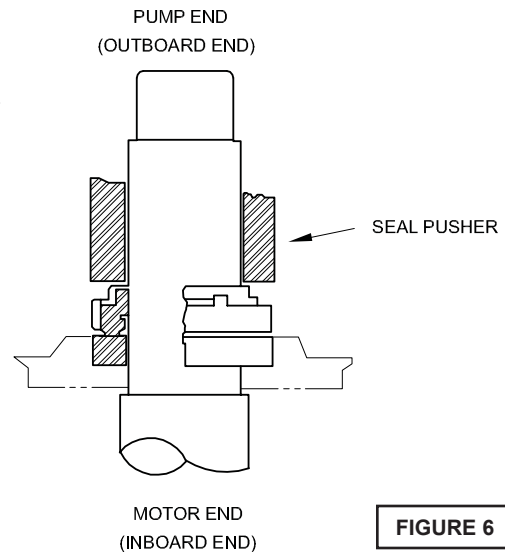
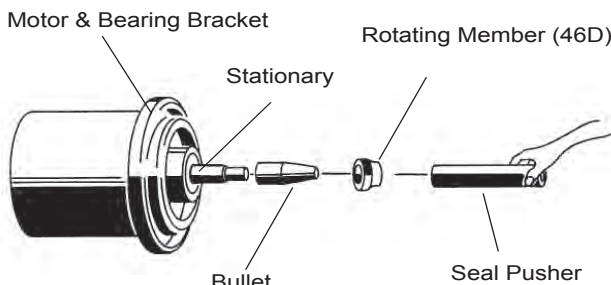

FIGURE 6
FIGURE 8
Make sure the stationary members are in straight and that the rubber ring is not out of it's groove. Slide a bullet (see parts list-Seal Kit) over motor shaft. Lightly oil (DO NOT use grease) shaft, bullet and inner surface of bellows on rotating member (46D) see Figure 8. With lapped surface facing bearing bracket (21), slide rotating member (46D) over bullet and onto shaft, using seal pusher, until lapped faces of (46D) and (46E) are together (see Figure 6).